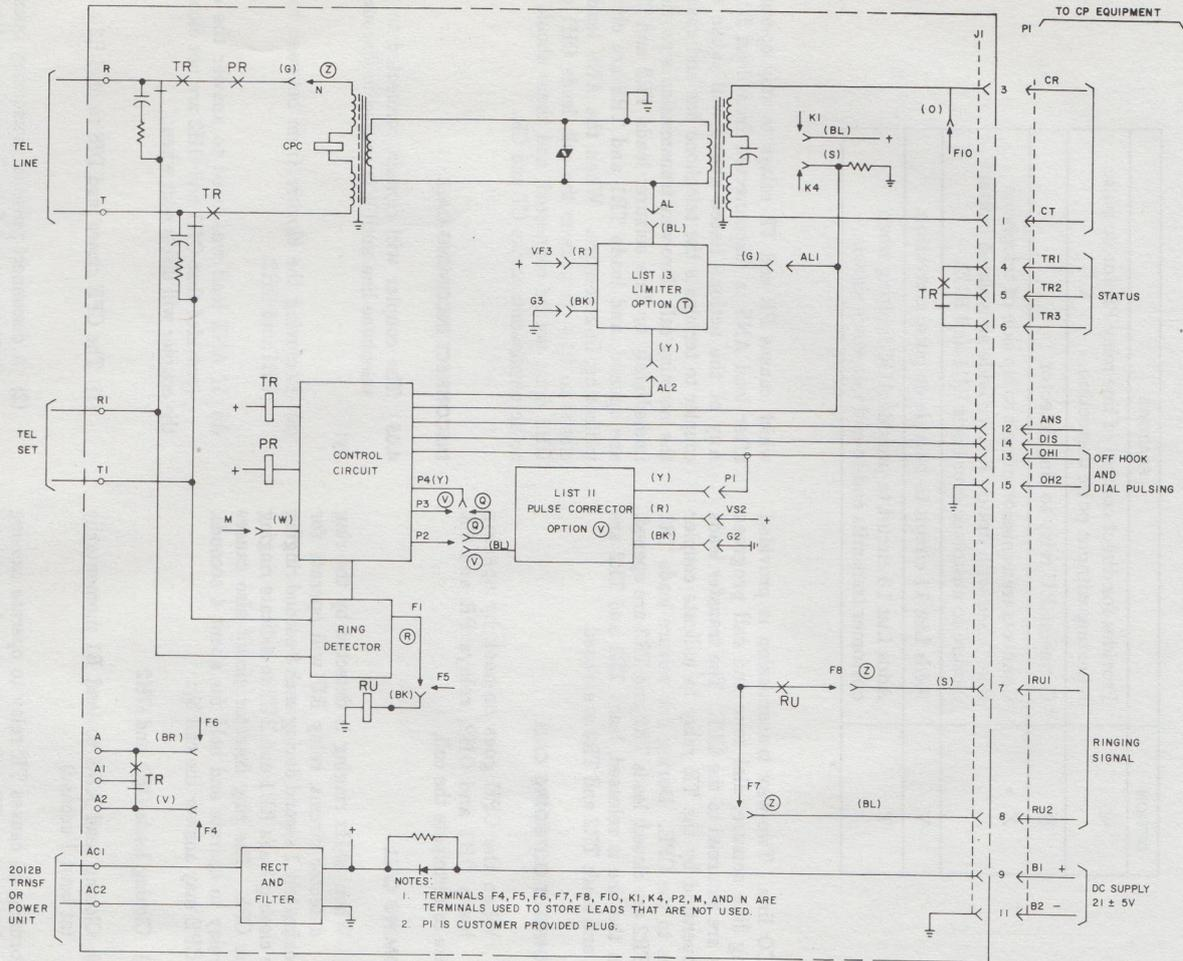

Fig. 7 KS-20721 Station Coupler, Internal Wiring Options
4.01 The KS-20721, List 1 station coupler (Fig. 7) consists of a 20-Hz ringing signal detector operating ringup (RU) relay, a supervisory control circuit operating line transfer (TR) relay, dial pulsing (PR) relay, and CPC relay, a transmission circuit consisting of two transformers in tandem, a peak voltage limiter, and a power supply rectifier and filter circuit.